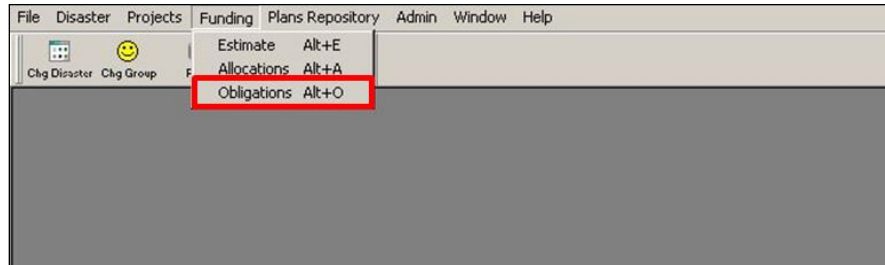

Figure 10-66: Mitigation > Funding > Obligations
1. If deobligating Federal funds, after the project has been amended and approved, on the MITIGATION menu, click on Funding > Obligations (Figure 10-66).